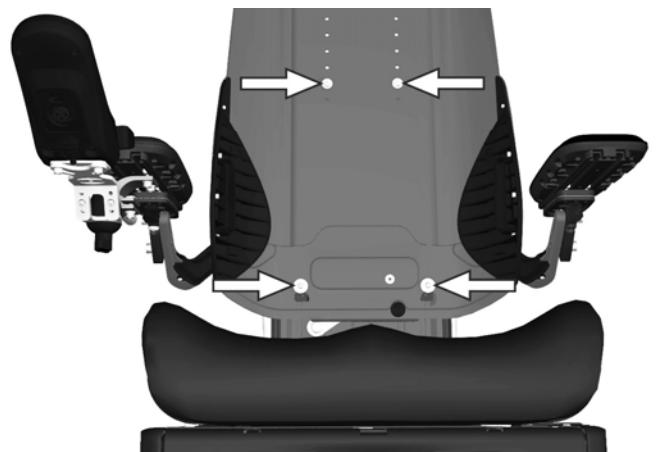

Figure 190. The lower backrest plate is secured by means of four locking devices.
4. Remove the lower section of the back rest by pulling the backrest plate straight up so it can be removed from the four locking devices. See fig. 190.